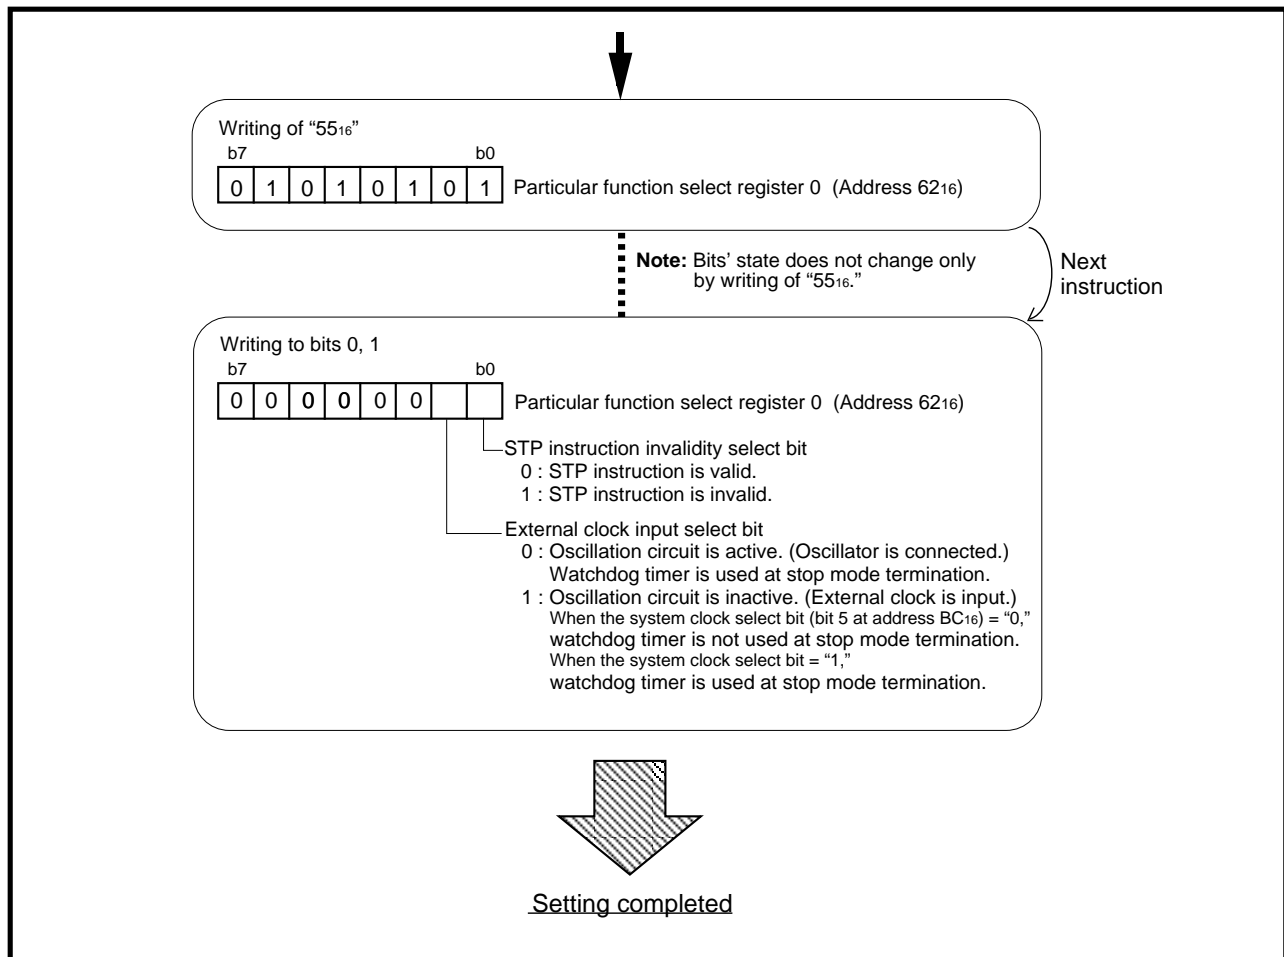

Fig. 15.2.3 Writing procedure for particular function select register 0
Figure 15.2.2 shows the structure of the particular function select register 0, and Figure 15.2.3 shows the writing procedure for the particular function select register 0.
- Succeedingly, write "0" or "1" to this bit. (See Figure 15.2.3.)
To rewrite this bit, write "0" or "1" just after writing of "55₁₆" to address 62₁₆. (See Figure 15.2.3.)